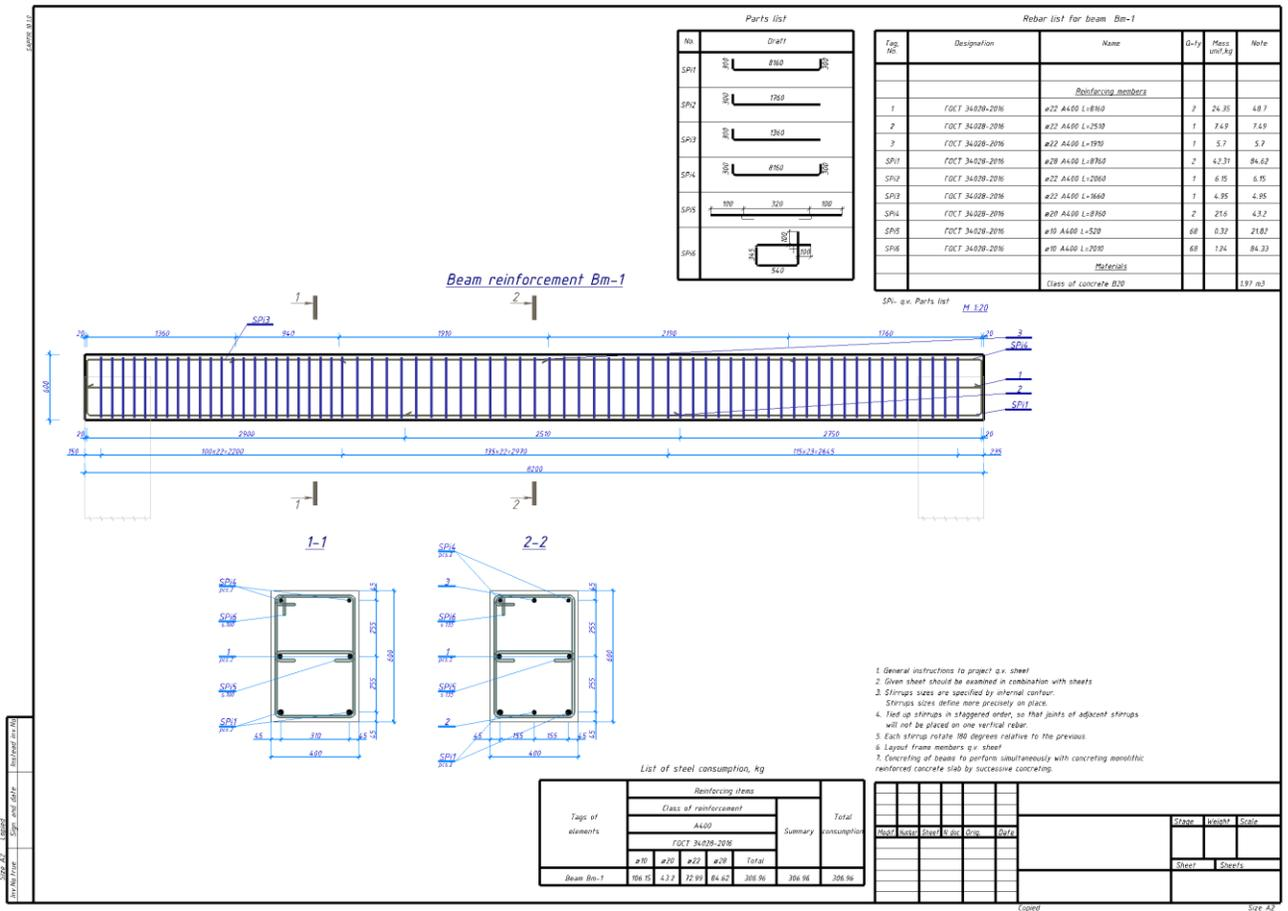

Figure 27.34. Drawing of beam reinforcement
- ⇒ In the **Views** window, select the **Bm-1** row in the **Assemblies** folder. Then drag the model of reinforcement for the beam to the sheet (see Fig. 27.34).